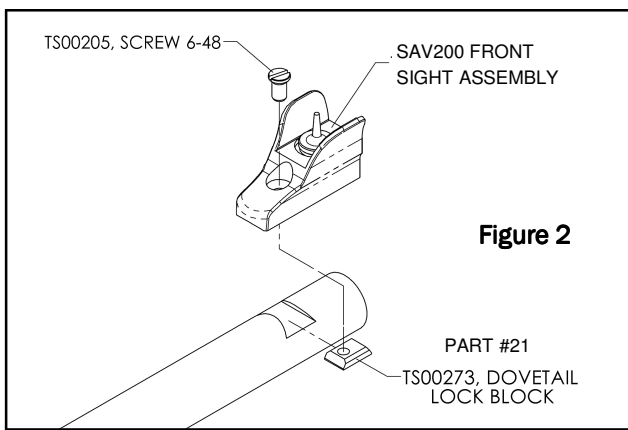

Figure 2
6. Slide or tap the Dovetail Lock Block into the dovetail slot until the tapped hole is centered on the barrel. (Fig. 2)
7. Apply a drop of removable thread locker to the threaded hole in the Dovetail Lock Block. (Fig. 2)
8. Align the SAV200 Front Sight Assembly on the barrel and start to thread the TS00205 Screw 6-48 into the Dovetail Lock Block. Then tighten the screw. (Fig. 2)